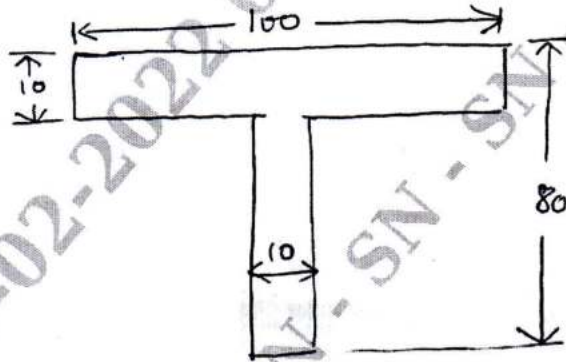

Fig. Q7 (a)
- 7 a. Determine the buckling load for a strut in Fig. Q7 (a). The strut is 3 mts long and is hinged at both ends. Take $E = 200 \text{ GN/mt}^2$. (10 Marks)